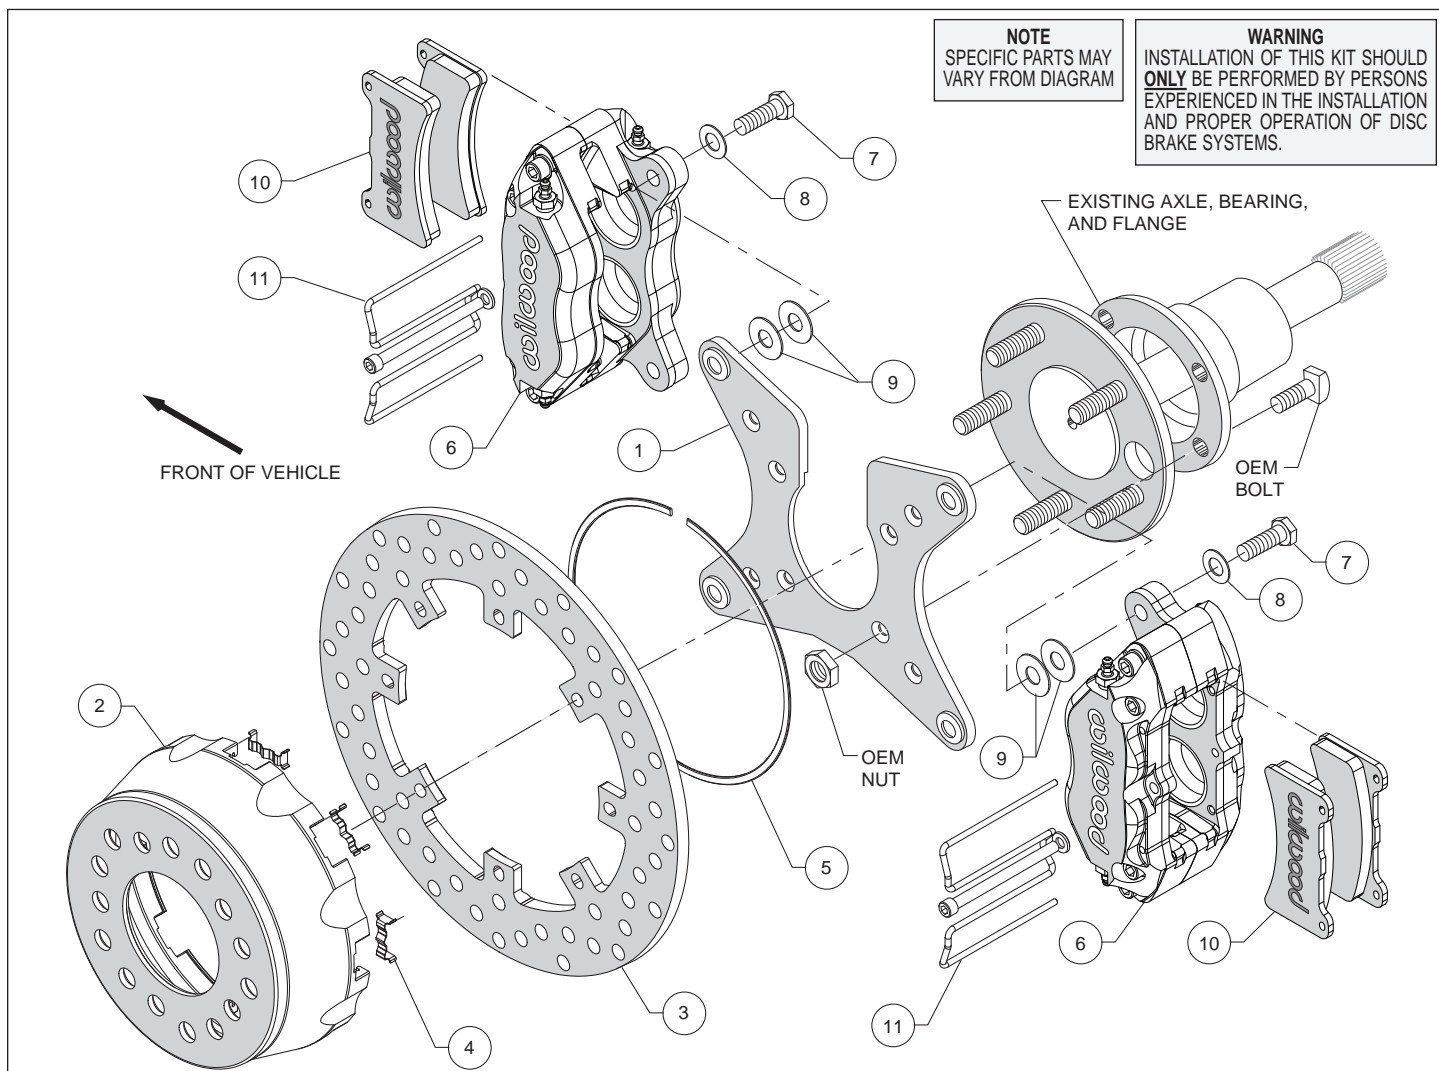
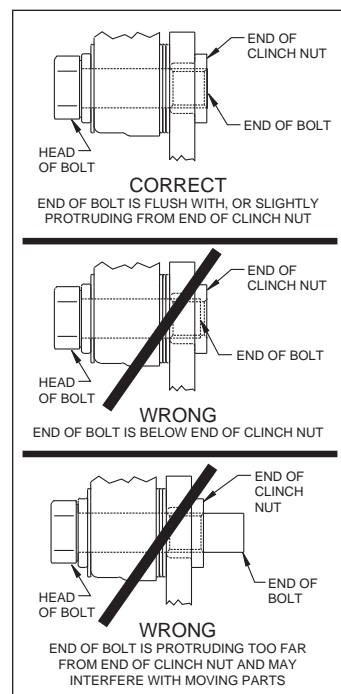

Figure 1. Typical Installation Configuration
Figure 5. Clinch Nut Engagement Diagram
**Assembly Instructions** (numbers in parenthesis refer to the parts list and Figure 1 on the preceding pages): **CAUTION:** All mounting bolts must fully engage clinch nuts. Be sure to check that all bolts are either flush or protruding through flanged side of clinch nut after shimming, Figure 5.
- Install the caliper mounting bracket (1), with the slot for the axle pointing upward, to the housing flange using the OEM bolts and nuts, as shown in Figure 1 and Photo 1. Ensure that the caliper mounting ears on the bracket are oriented fore and aft on the car, with the heads of the clinch nuts facing outboard, Photo 1. Apply red *Loctite*® 271 to the OEM bolt threads and torque to OEM specifications.
- Insert the dynamic mount wear clips (4) into the slots in the hat (2) making sure the tabs snap in place, Photo 2. Orient the rotor (3) as shown in Figure 1 and Photo 3, with the flush mount tab side facing the hat. Attach the rotor to the hat using snap ring (5) by pushing down on the rotor and installing the ring into the groove in the hat, as shown in Photo 4. Ensure that the ring is fully engaged in the groove.
- Align the correct hole pattern in the hat (2) with the axle stud pattern and slide the hat/rotor assembly onto the axle hub. **NOTE:** The hat must fit flush against the axle flange or excessive rotor run out may result. Install three lug nuts (finger tight) to keep the hat/rotor in place while continuing with the installation. **NOTE:** The hats included in this brake kit are drilled for .68" diameter wheel studs.
- NOTE:** Please reference the caution statement at the beginning of the assembly instructions. Mount one caliper (6) onto the mounting bracket (1) using bolts (7) and washers (8), as shown in Figure 1. Initially place two .035" thick shims (9) on each bolt between the caliper and the bracket, Photo 5. Temporarily tighten the mounting bolts and view the rotor (3) through the top opening of the caliper. The rotor should be centered in the caliper, Photo 6. If not, adjust the caliper by adding or subtracting shims between the bracket and the caliper. Always use the same amount of shims on each of the two mounting bolts. **NOTE:** The end of each bolt must be flush with or slightly protruding from the head of the clinch nut. If necessary, place spare shims between washer and caliper mounting ear to achieve the proper clinch nut engagement, as shown in Figure 5. Once the caliper alignment and clinch nut engagement are correct, remove the bolts one at